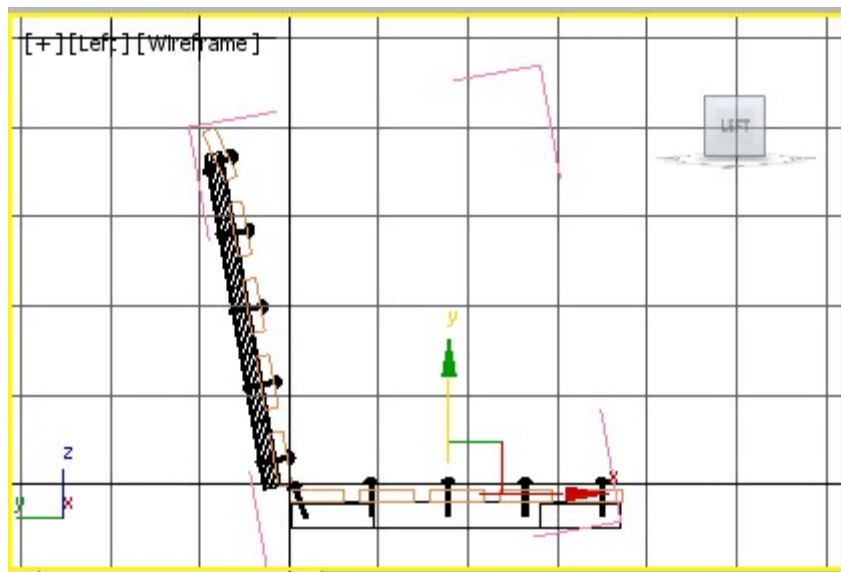

Figure 2-93 Alignment of right side seat rivets in the Left viewport
9. Choose the **Select and Move** tool. Now, move the cursor over the vertical axis and then drag the mouse downward to align *right side seat rivets* with *horizontal seat support*, as shown in Figure 2-93.